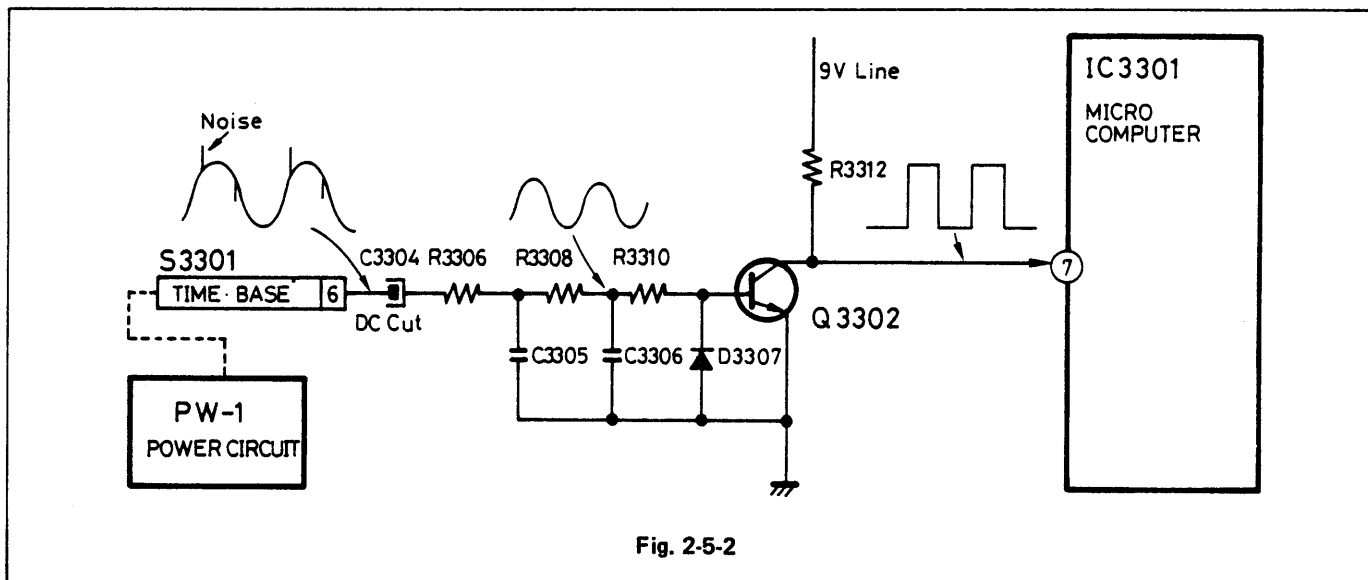

Fig. 2-5-2
The clock reference counting circuit is shown in Fig. 2-5-2. An AC waveform of approximately 50 Vp-p is input to pin (6) of S3301 from power circuit PW-1. The input signal,